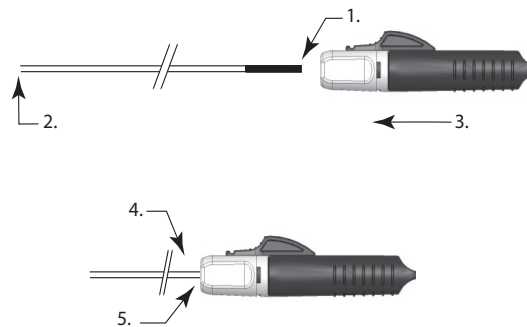
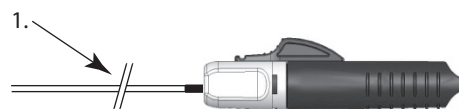

Figure 3
Figure 4
13. Hold the proximal end of the implant pusher at the distal end of the load indicator. Advance the I.D. (Instant Detacher) over the proximal end of the implant pusher until the load indicator fully enters the funnel and the pusher is firmly seated in the actuator (See Figure 3).
Note: If indicator band is still showing as in Figure 4 below, the I.D. (Instant Detacher) should be advanced further until the implant pusher is fully seated in the funnel as in Figure 3 above.